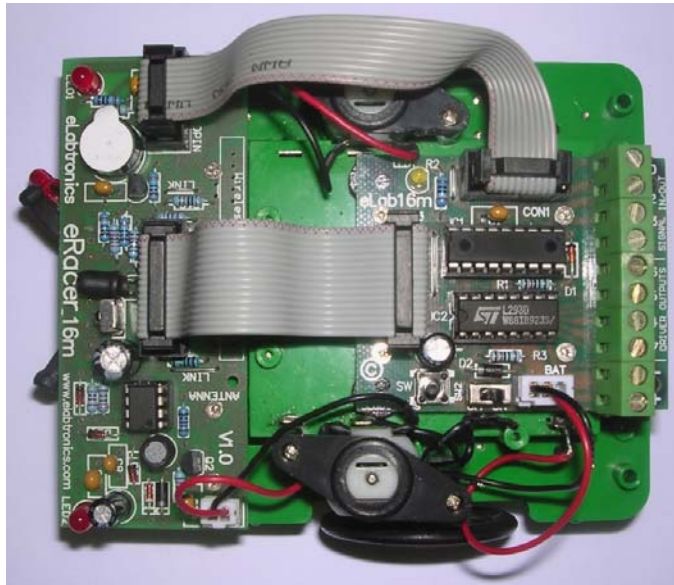

Figure 21
- ☐ IC1 is the 18-pin PIC16F819 chip on the eLab16m board. Remove the PIC16F819 chip in order to perform the next tests. Connect the eRacer_16m board to the eLab16m board using the 10 pin ribbon connector (Refer to Figure 21)
You will also need to connect the eRacer_16m board to the eLab16m board using the 10pin and 16pin ribbon connectors (Refer to Figure 21)